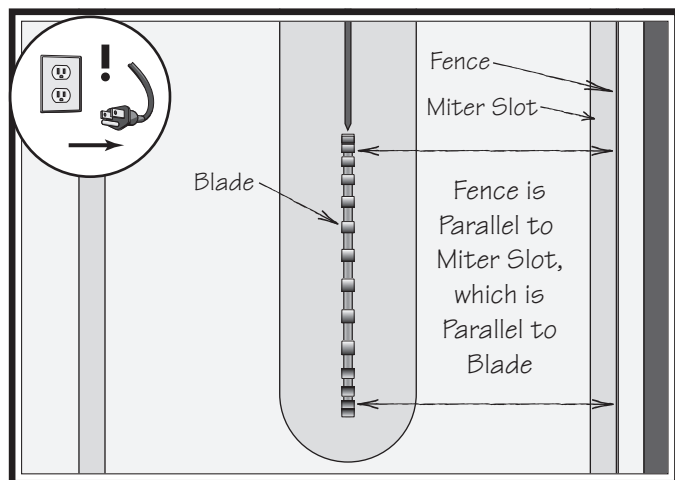

Figure 134. Checking fence parallelism with blade.
2. Slide fence up against right side edge of miter slot, lock it in place, then raise blade fully. Examine how fence lines up with miter slot and blade, as illustrated in **Figure 134**.
- If the fence slot *is* parallel with the blade, as shown in **Figure 134**, no further adjustments need to be made.
5. Rotate blade 180° and recheck distance between fence and blade tooth that you marked in **Step 4** to ensure they are parallel (see **Figure 134**).